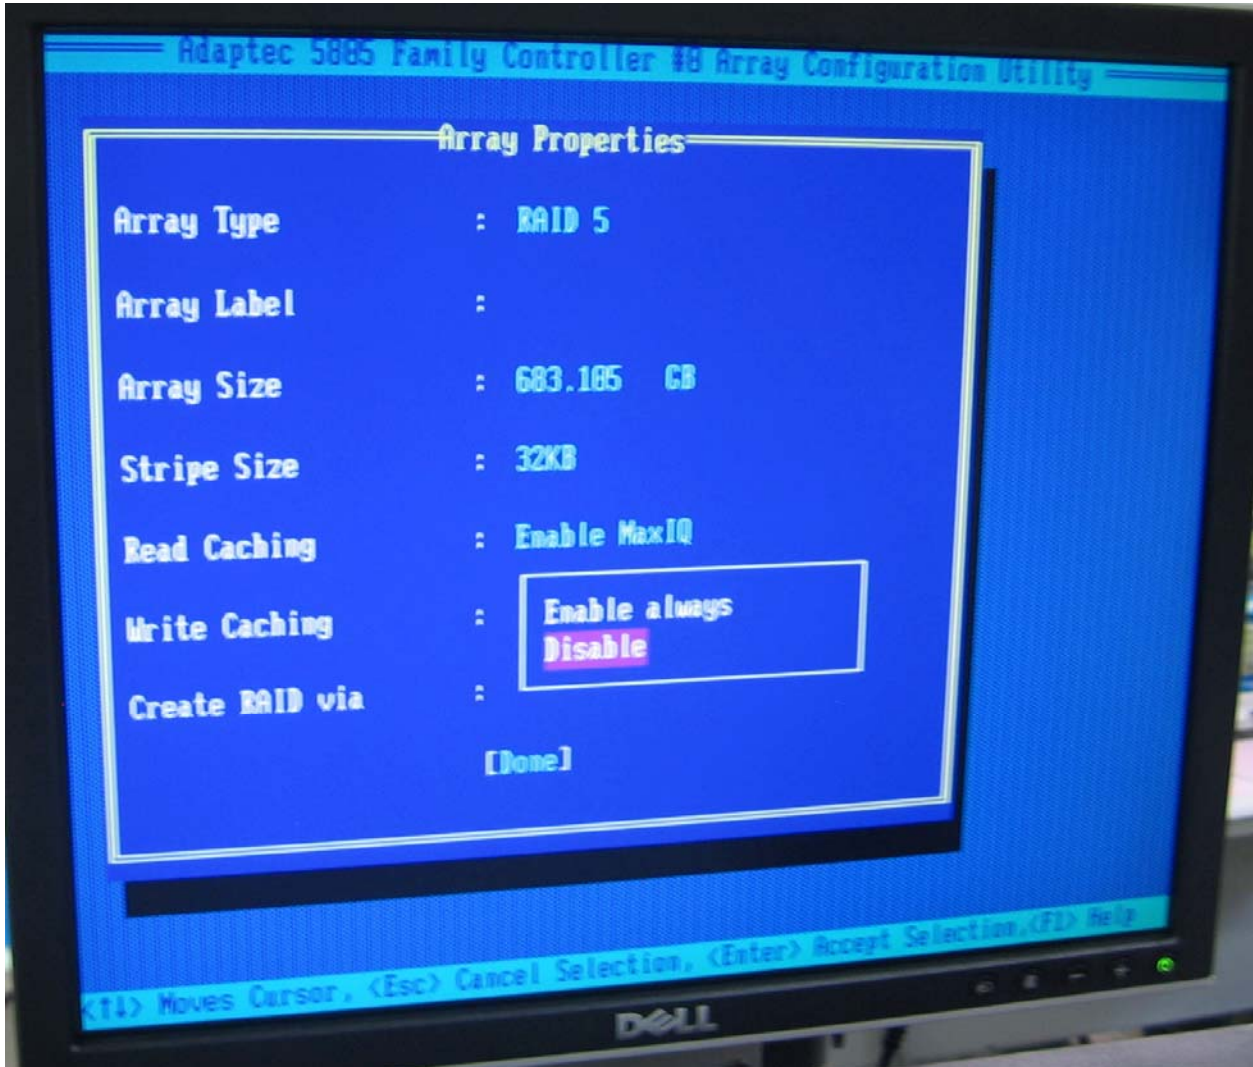

Figure 7-14 Write Caching
16. In **Write Caching** select **Disable** and press **Enter**. (Figure 7-14).